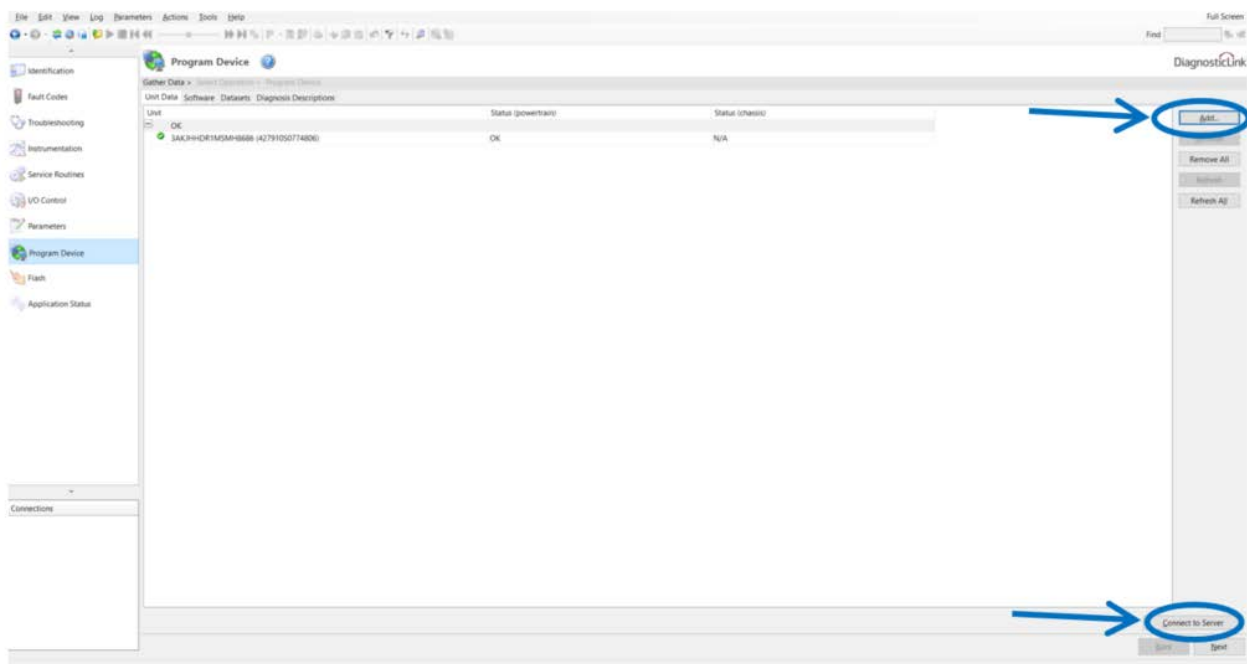

Figure 2 – Adding Engine Serial Number and Connecting To Server
66. Select the “Add” button in the upper right corner of the DiagnosticLink® screen and enter the engine serial number. Then click the “Connect to Server” button in the bottom right corner of the DiagnosticLink® screen. See Figure 2.